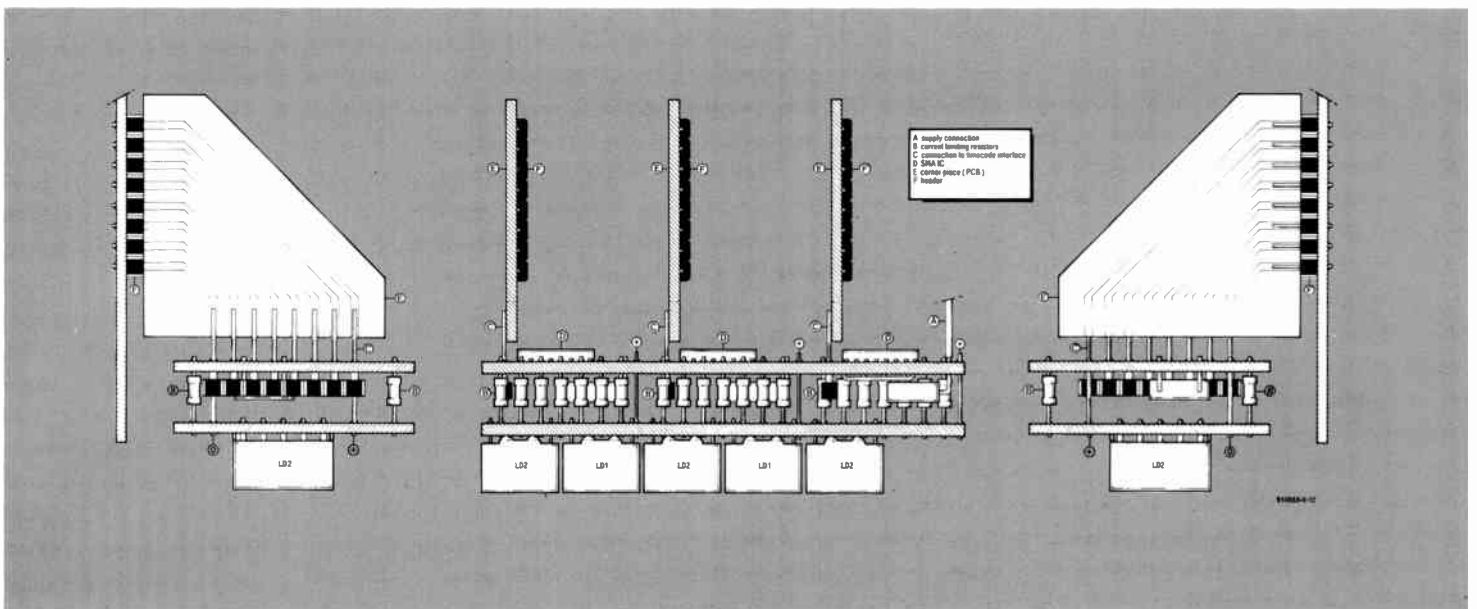

Fig. 14. Showing how the display and the corner pieces are mounted on to the main board.
7. As shown in Fig. 14, the supply and the LOAD connections are interconnected between the PCB sections. They are connected to wires that allow the display to be driven from the main board via connector K8.
Note that the front panel is designed such that the display unit is fitted as far as possible to the left. As shown in Fig. 14, each corner piece is at the left of the header, while the display section is fitted with its left side to the corner pieces.